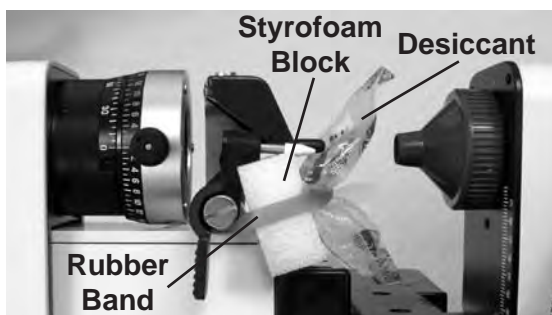

Figure SU-04 Rubber Band & Styrofoam
8. Remove the Rubber Band, Styrofoam Block, and package of Desiccant that was holding the Marking Pens upright during transport. Refer to Figure SU-04.